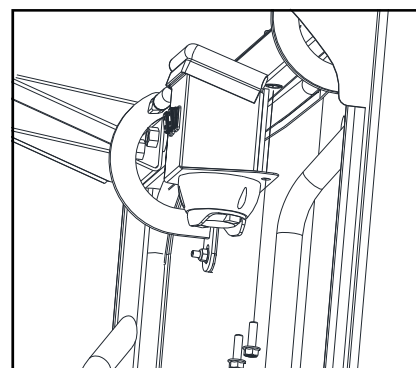

Fig. 1.2
1.2 Per Figure 1.2, fasten the light switch panel to the ROPS cross-bar using the factory installed inserts and the hardware listed below. **Fully tighten at this time.**